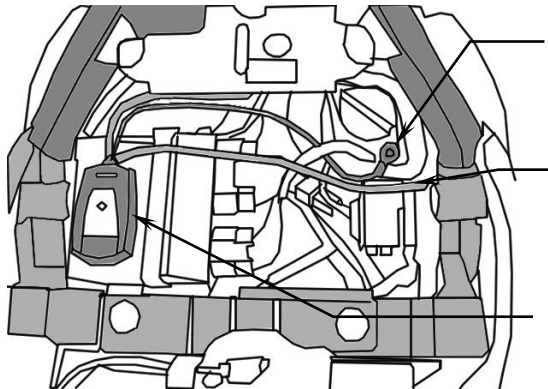

FIGURE 4
6. Using the supplied Velcro pads, place the module in the position shown, in Figure 4. Attach the black ground wire from the Fi2000 to the 5 mm allen head bolt securing the battery ground wire, see Figure 4. Before reinstalling the seat, verify connections.